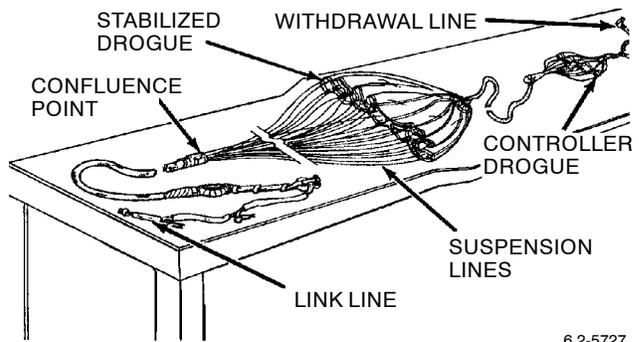

Figure 1. Layout of Drogue Parachute Assembly
a. Lay out drogue parachute on packing table (Figure 1).